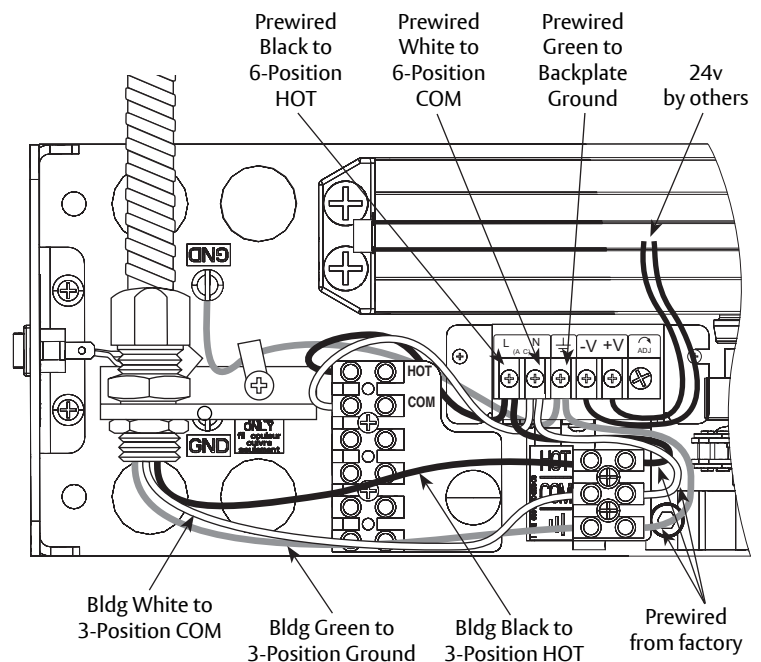

Figure 2
1. Connect power supply wires to operator 6-position terminal strip (Figure 2):
1. Connect building wires to power supply 3-position terminal strip (Figure 2):
3. Secure 24v leads (supplied by others) to -V and +V on power supply block. (Figure 2)